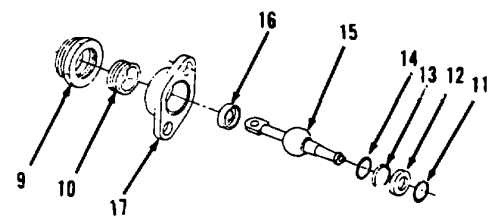
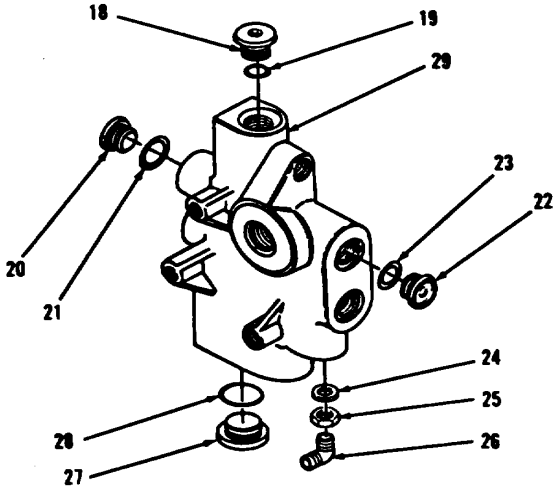

Figure 8-20.
Figure 8-21.
5. Remove preformed packing (11), bearing (12), ring (13), preformed packing (14), lever (15) and bearing (16, Figure 8-20). Discard preformed packings (11 and 14).
6. Remove nut (9) and screw (10) from housing (17).
7. Remove plug (18) and preformed packing (19, Figure 8-21). Discard preformed packing (19).
8. Remove plug (20) and preformed packing (21). Discard preformed packing (21).
9. Remove plug (22) and preformed packing (23). Discard preformed packing (23).
10. Remove nut (24), washer (25) and elbow (26).
11. Remove plug (27) and preformed packing (28) from body (29). Discard preformed packing (28).